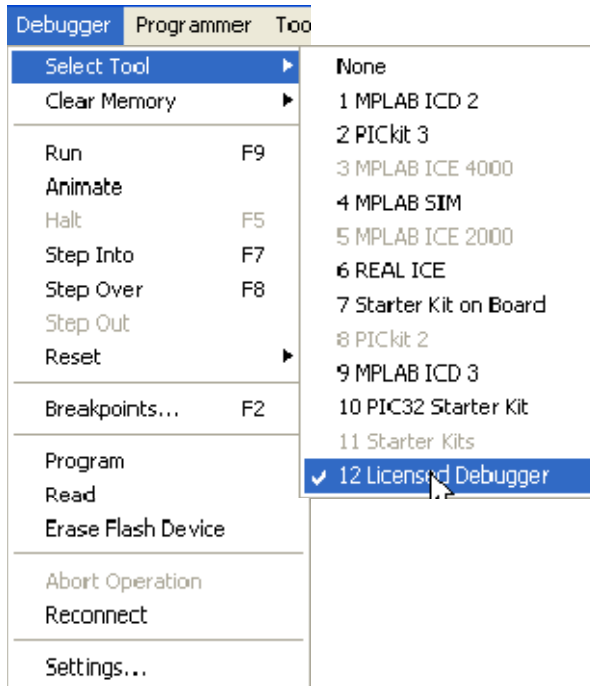

Figure 21: Selecting a Debugger Tool
Step 1: First, select "Debugger" -> "Select Tool" -> "Licensed Debugger" (Figure 21). If the power to your board is not on, you will not be able to select the "Licensed Debugger".